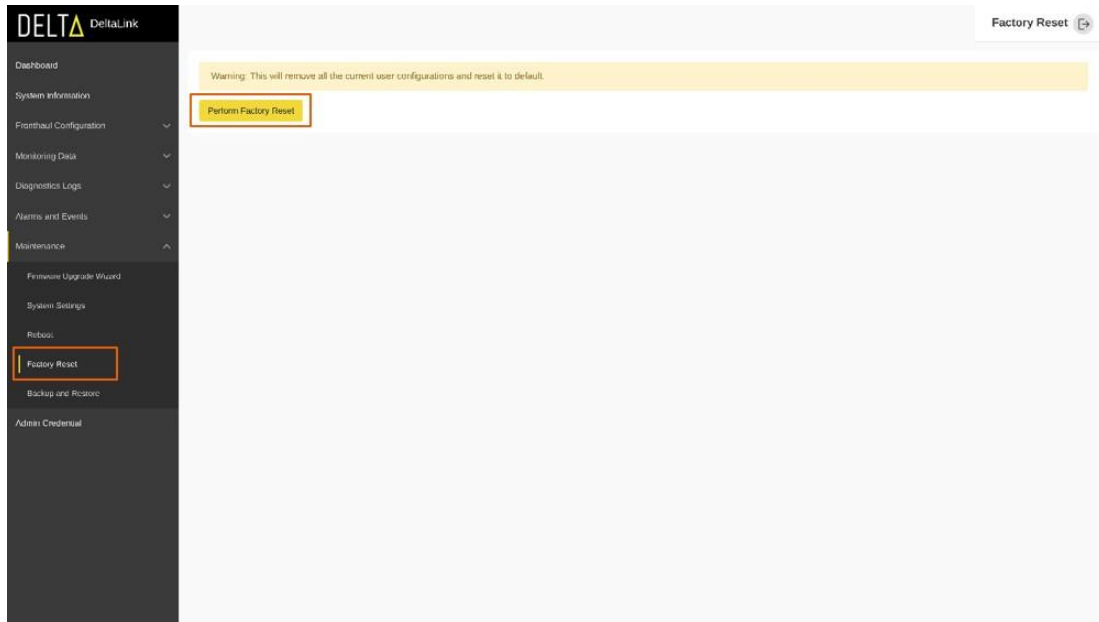

Figure 56 Factory Reset
- a) To factory reset the device, navigate to "Maintenance" and select "Factory Reset" from the expanded menu as shown in the Figure 56 below.